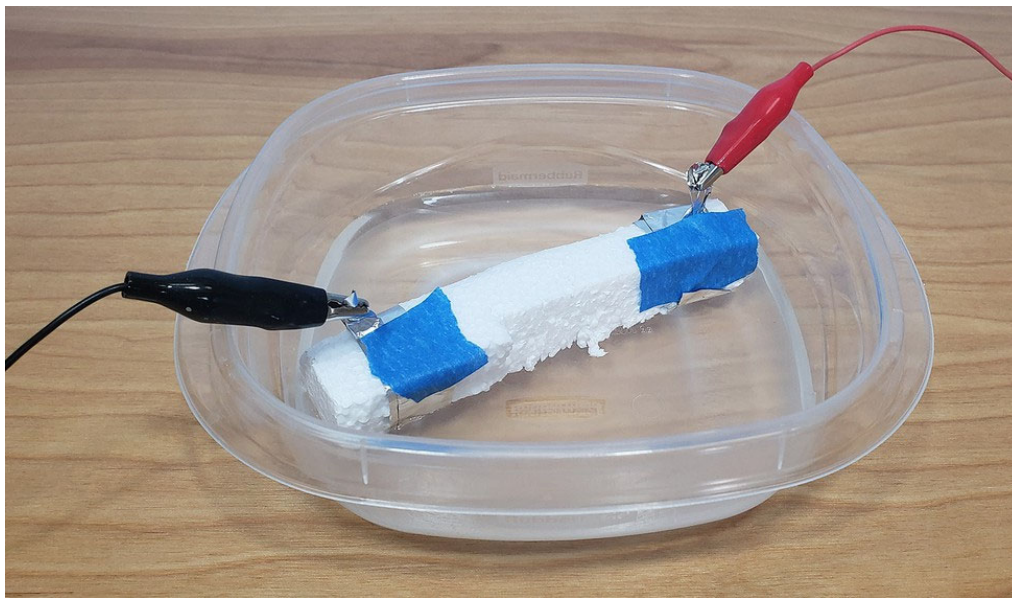

Figure 5. Conductivity sensor floating in a container of water with alligator clips attached to the aluminum foil.
1. Build your conductivity sensor using two strips of aluminum foil and a piece (or pieces) of floating material. There are several options to build one (Figure 4). Make sure the sensor fits in the container you will use for water (Figure 5).